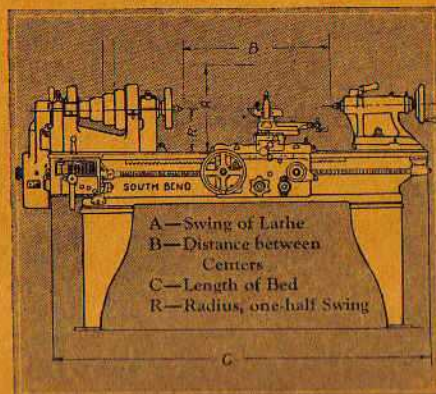

Fig. 2. How to Determine Size of Lathe.
**3. Size of Lathe.** To find the size of your lathe, measure the distance from the point of the headstock center to the top of the inside rear "V" of the lathe bed. This will give the radius; double this figure and you have the swing or the size of your lathe. See Fig. 2 below.